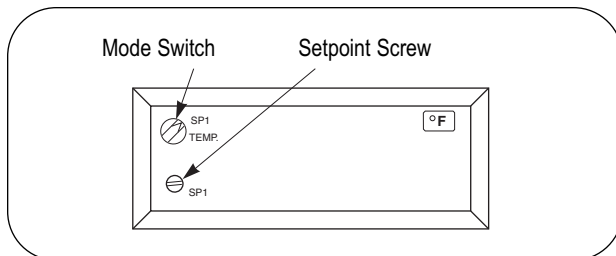

Figure 7. Optional LED Temperature Control
1. To set the temperature, turn the red Mode Switch counterclockwise to the SP-1 position indicated on the controller. (See Figure 7.)